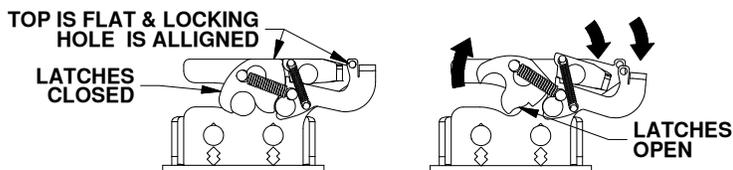

Figure D1: Side View of Biker Bar base.
- Latching bike to base:** With the side plate latches open, see Figure D1, and the handle up, slowly ride the bike through the base, centered between the side plates. Continue forward until both side plate latches fully close around the bar. When the latch is fully closed, the top edge of the latch will line up with the top of the side plate and the padlock holes will line up, see Figure D1.